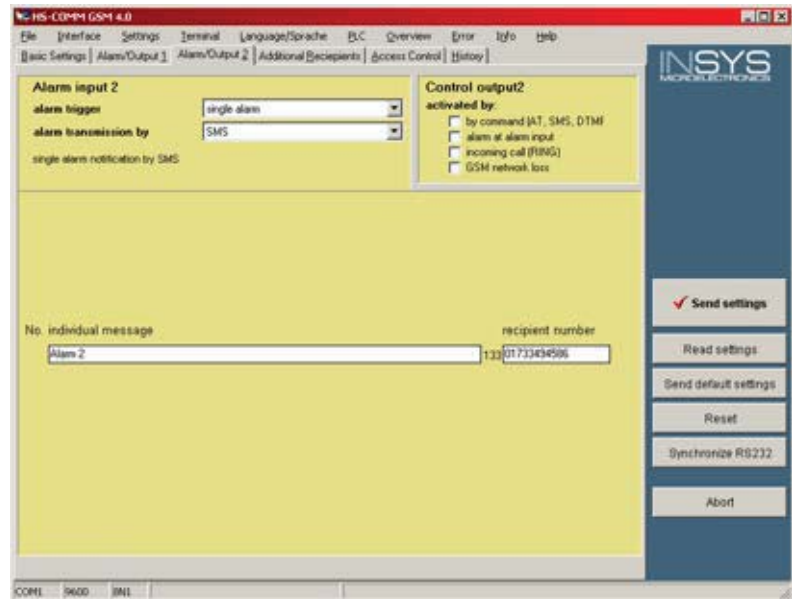

Fig. 198: GSM modem - alarm/output 2
3. Set up the modem as shown in (Fig. 198) on the “Alarm/Output 2” tab.